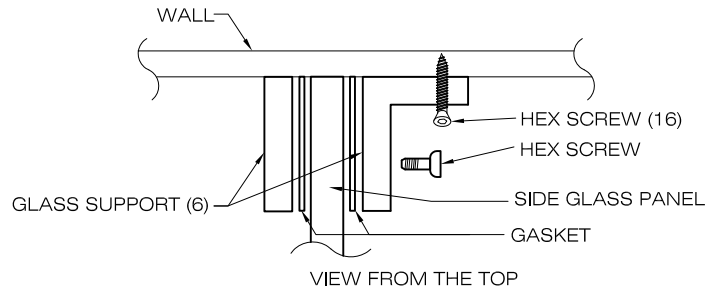

FIG. 4
9. Repeat steps 1 through 8 for the unhinged side glass panel (#4). [SEE FIG.4]